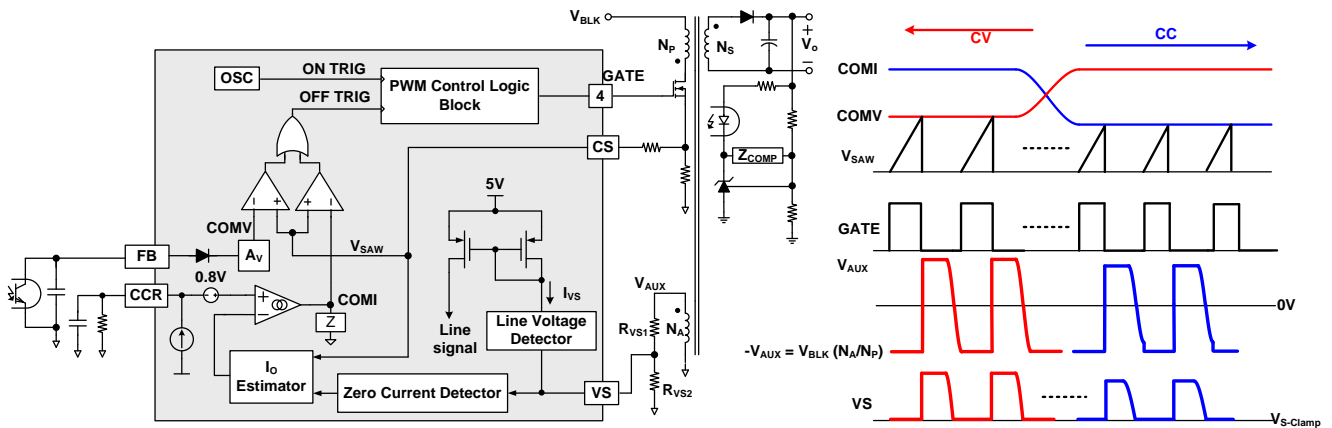
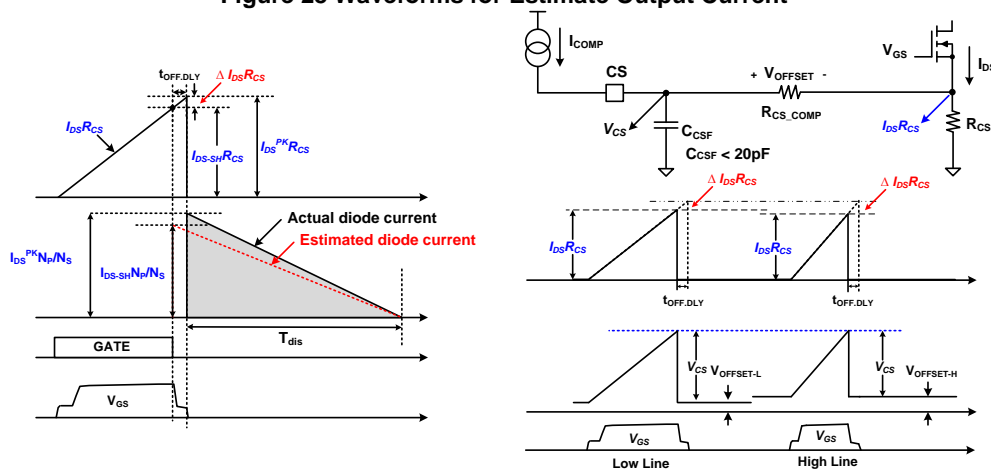

Figure 27 Simplified PWM Control Circuit and PWM Operation for CV/CC Regulation
Figure 29 Effect of MOSFET Turn-off Delay and Line Voltage Compensation
The FAN604H indirectly senses the line voltage through the VS pin while the MOSFET is turned on, as illustrated in Figure 27. MOSFET turn-on period, the auxiliary winding voltage, V_{AUX} , is proportional to the input bulk capacitor voltage, V_{BLK} , due to the transformer coupling between the primary and auxiliary windings. During the MOSFET conduction time, the line voltage detector clamps the VS pin voltage to $V_{S-Clamp}$ (0 V), and then the current I_{VS} flowing out of VS pin is expressed as:
Figure 27 shows a simplified CV / CC PWM control circuit of the FAN604H. The Constant Voltage (CV) regulation is implemented in the same manner as the conventional isolated power supply, where the output voltage is sensed using a voltage divider and compared with the internal reference of the shunt regulator to generate a compensation signal. The compensation signal is transferred to the primary side through an opto-coupler and scaled down by attenuator A_V to generate a COMV signal. This COMV signal is applied to the PWM comparator to determine the duty cycle.
These two control signals, COMV and COMI, are compared with an internal sawtooth waveform (V_{SAW}) by two PWM comparators to determine the duty cycle. Figure 27 illustrates the outputs of two comparators, combined with an OR gate, to determine the MOSFET turn-off instant. Either of COMV or COMI, the lower signal determines the duty cycle. During CV regulation, COMV determines the duty cycle while COMI is saturated to HIGH level. During CC regulation, COMI determines the duty cycle while COMV is saturated to HIGH level.
The output current estimation is also affected by the turn-off delay of the MOSFET as illustrated in Figure 29. The actual MOSFET's turn-off time is delayed due to the MOSFET gate charge and gate driver's capability, resulting in peak current detection error as
Where L_m is the transformer's primary side magnetizing inductance. Since the output current error is proportional to the line voltage, the FAN604H incorporates line voltage compensation to improve output current estimation accuracy. Line information is obtained through the line voltage detector as shown in Figure 27. I_{COMP} is an internal current source, which is proportional to line voltage. The line compensation gain is programmed by using CS pin series resistor, R_{CS_COMP}, depending on the MOSFET turn-off delay, t_{OFF_DLY}. I_{COMP} creates a voltage drop, V_{OFFSET}, across R_{CS_COMP}. This line compensation offset is proportional to the DC link capacitor voltage, V_{BLK}, and turn-off delay, t_{OFF_DLY}. Figure 29 demonstrates the effect of the line compensation.